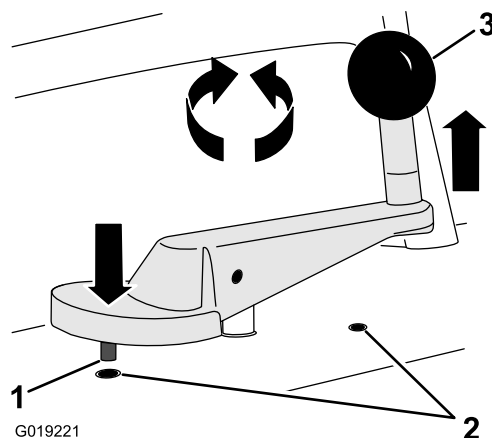

Figure 18
- Using the blade elevation crank (Figure 18), rotate the crank counterclockwise to lower the blade until it touches the job-site surface.
- C. Rotate the elevation crank 1 revolution clockwise to raise the blade elevation (Figure 18). The machine is at the **Start Elevation**.
2. Rotate the dial of the blade-depth gauge until the pointer (white) is aligned with the “-0” mark on the gauge (Figure 18).
1. Raise or lower the saw blade by rotating the elevation crank until the desired blade elevation is achieved (Figure 18).
2. If necessary, rotate the elevation crank to align the index pin in the bottom of the crank handle with an index-pin hole in the operator panel (Figure 18).
3. Pull the elevation crank up to engage the index pin in the hole (Figure 18).